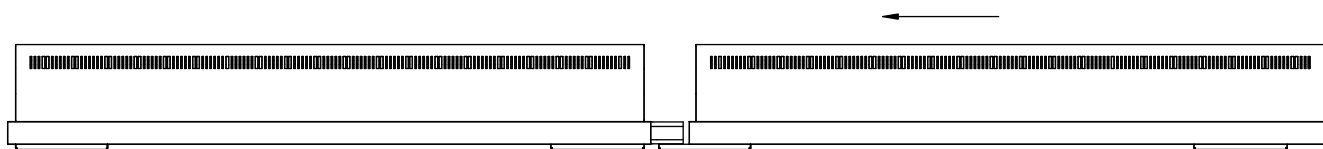

Figure 6
- B. Hang the next fixture in the run on the wall canopies, but offset it to clear the joiner bracket. (Fig. 6) Connect the wiring between the two fixtures.